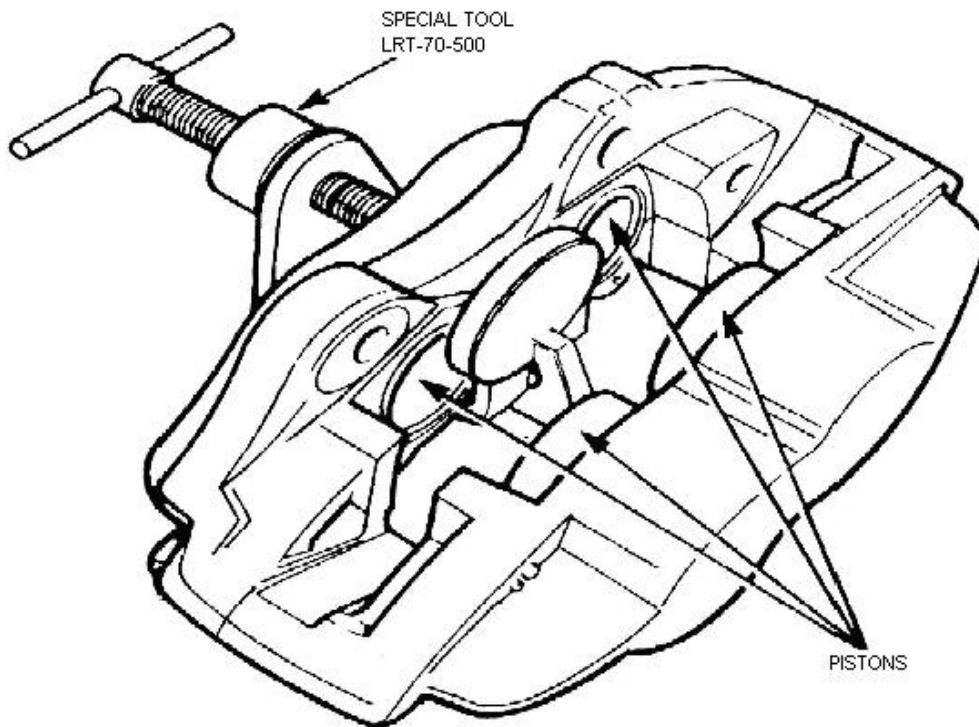

Figure 3 Piston Removal Rim Half
- b. Install special tool LRT-70-500 (Table 2, Item 1) to retain both pistons in the mounting flange half of the caliper (Figure 3).